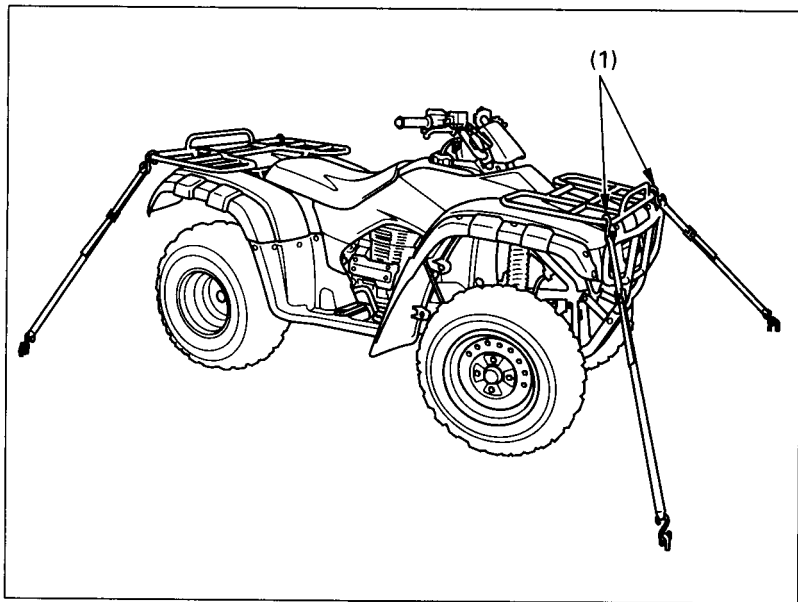

Fig. 4-39 Points to secure FOURTRAX with tie downs
3. Secure the vehicle with "tie downs" in the areas shown (Fig. 4-39). Suitable "tie downs" are available from your Honda dealer. Ordinary rope is not recommended because it can stretch under load.